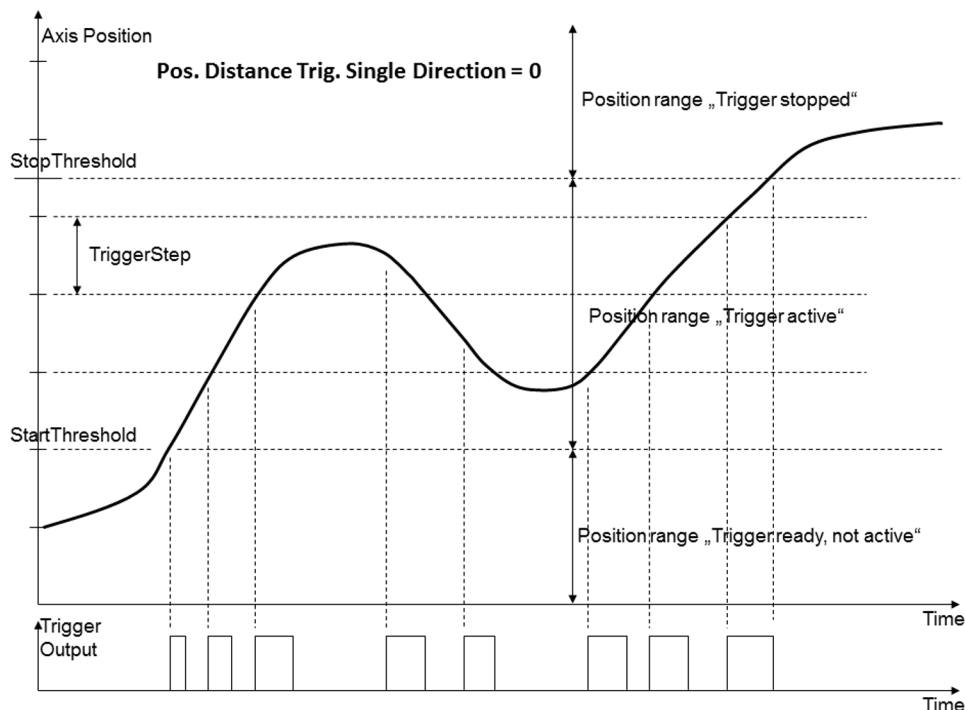

Figure 62: Position Distance trigger mode with threshold settings, trigger output continues when the motion direction is reversed
- 0 (default setting) = Trigger is generated whenever the position is within the range defined by the start/stop thresholds. Trigger output is independent of the current direction of motion, i.e., continues when the motion direction is reversed before the axis position has reached the stop threshold (Figure 62).